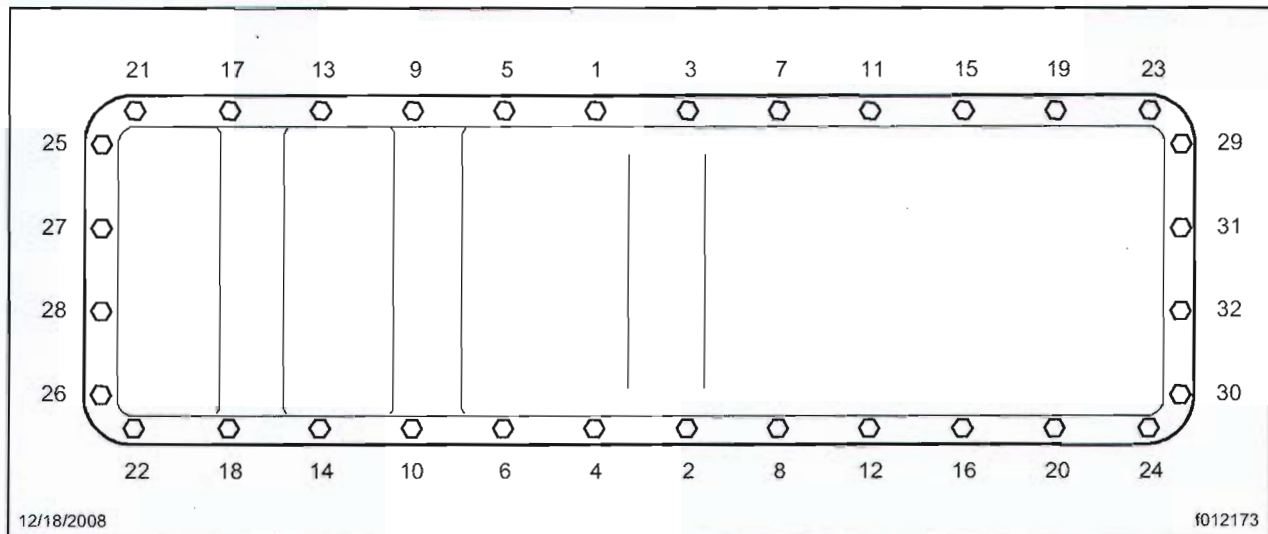

Fig. 4, Oil Pan Fastener Tightening Sequence
- 18.3 Using a new gasket and the existing capscrews and washers, install the new oil pan. Tighten the capscrews 248 lbf-in (28 N·m) in the sequence shown in **Fig. 4**.